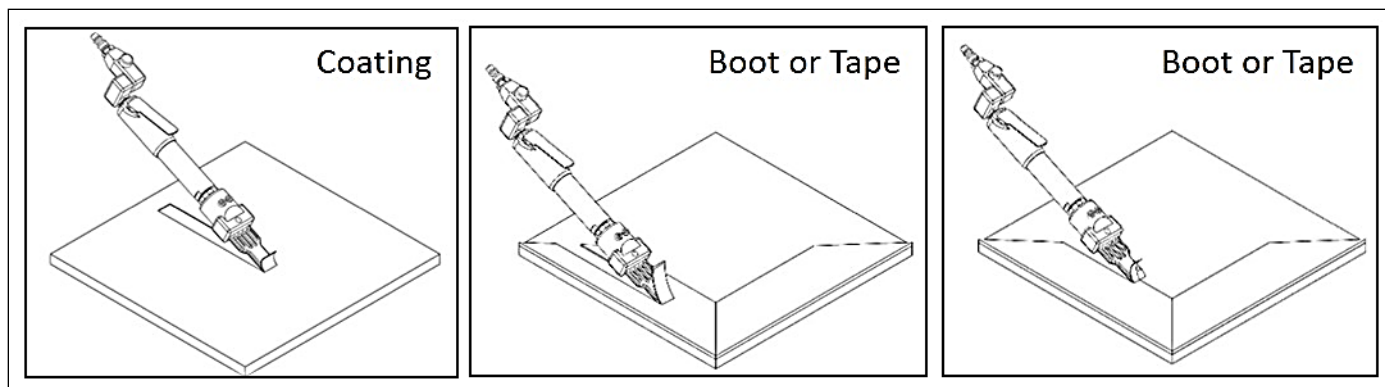

Figure 9. Material Removal
- 3.2.4. Fully depress the lever on the pneumatic tool, apply forward pressure and guide the TSB through the coating, boot or tape material. See **Figure 9**.